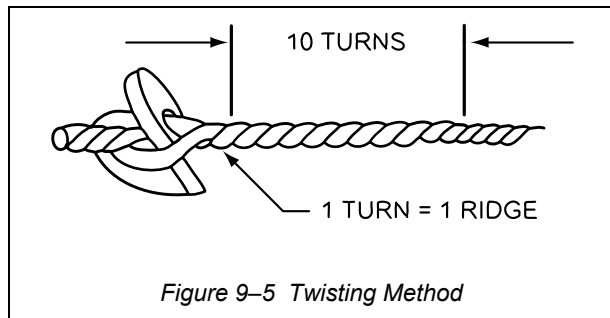

Figure 9-5 Twisting Method
- b. Twist wire, under slight tension, approximately 9 to 11 turns per inch, (see Figure 9-5), by hand or by special tool, as described in Paras 11 and 12. Twist wire right handed so it will have a tightening effect. Twist to within approximately 0.125 inch (3mm) of each unit.